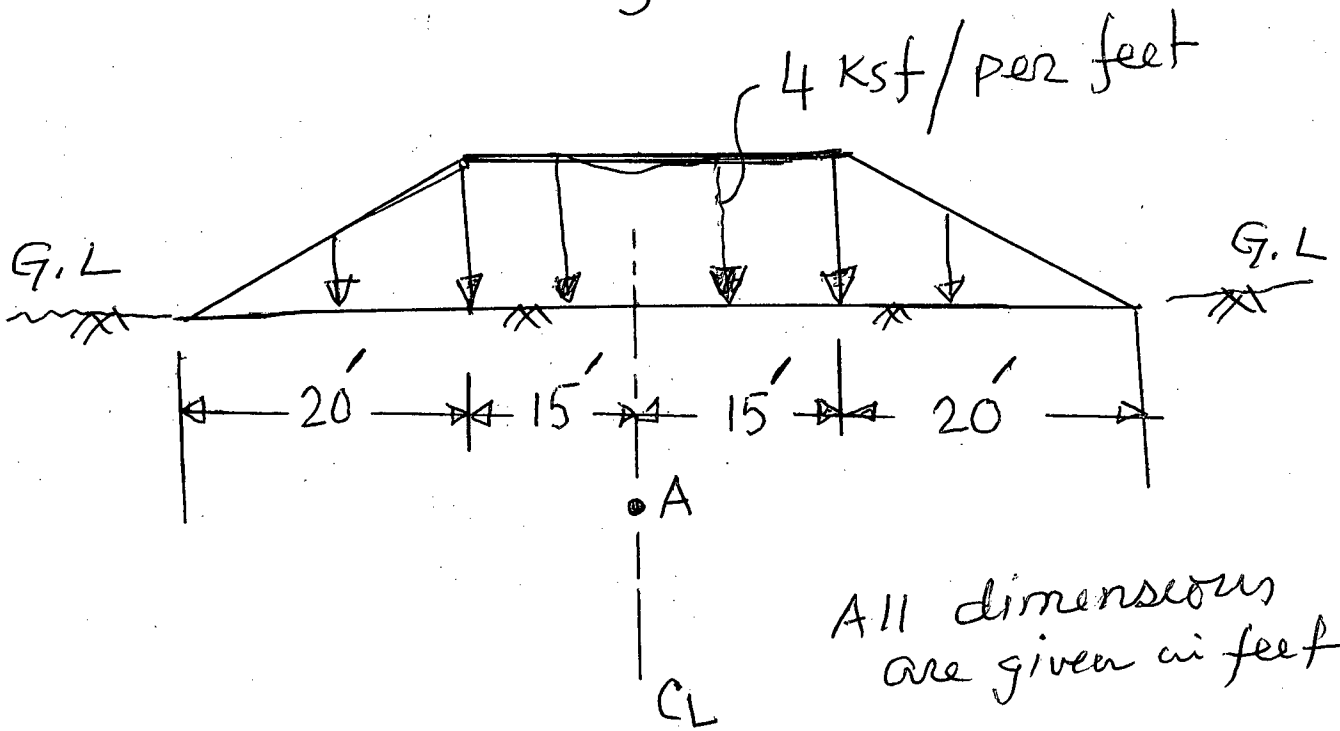

Fig. 3
- (c) Calculate the magnitude of vertical pressure at A which is 21 feet below the ground level due to an embankment loading as shown in Fig. 3. **(15 $\frac{2}{3}$ )**